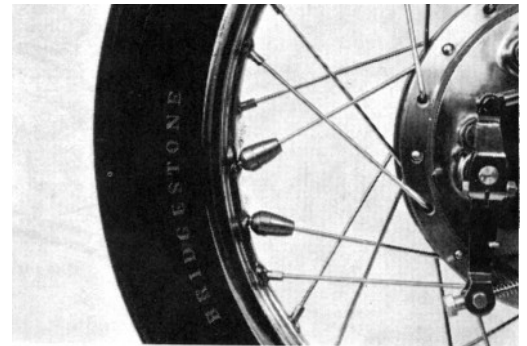

Fig. 105 Balance weights
3. Balance weights clamped to the spokes should be attached to their original position. (Fig. 105)